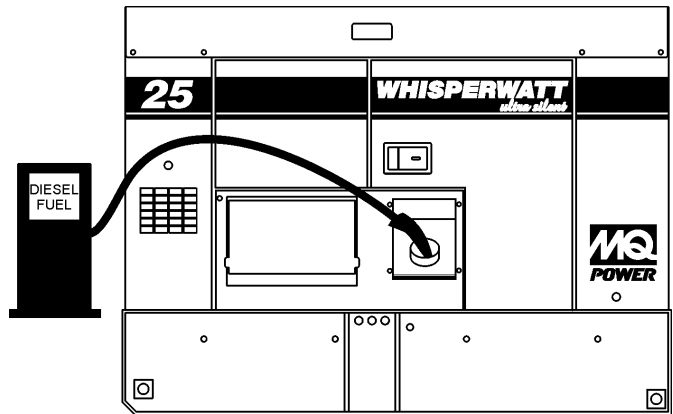

Figure 34. Fueling the Generator
2. Open cabinet doors on the “right side” of the generator (from generator control panel position). Remove fuel cap and fill tank (Figure 34).